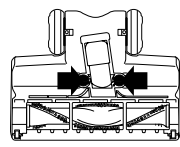
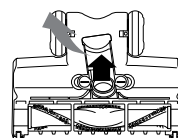

Fig. 27
Fig. 28
- 2 Squeeze tabs together and pull up to expose the airway. **(Fig. 27, Fig. 28)**